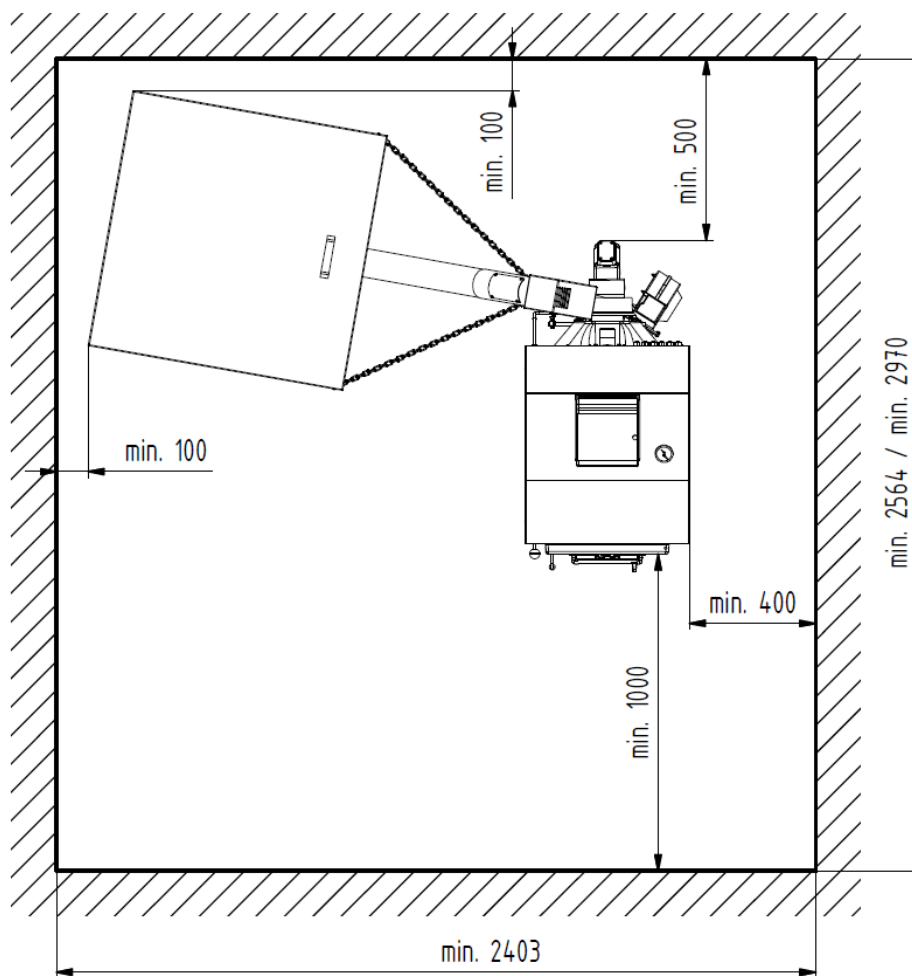

Fig.no. 7 Positioning of boiler in boiler room
1. Place the fuel tank (1) on the desired location next to the boiler (see Fig.no.7). Push the screw conveyor of the fuel tank (7) through the hole in the side of fuel tank and secure it with a pendant chainlet (3). Insert the elbow pipe (8) into the hole $\varnothing 76$ mm in the burner and insert an adapter (reduction) (9) with a wider side into the elbow pipe. Connect the adapter (reduction) with worm conveyor of fuel reservoir (7) through a transport hose (4). Secure both ends of the transport hose (4) with hose clamps. **ATTENTION! The fuel reservoir screw conveyor must be mounted in a way making sure that there is a sufficient gradient of flex hose against the pellets falling freely on the combustion chamber screw conveyor without stopping the hoses with pellets.**